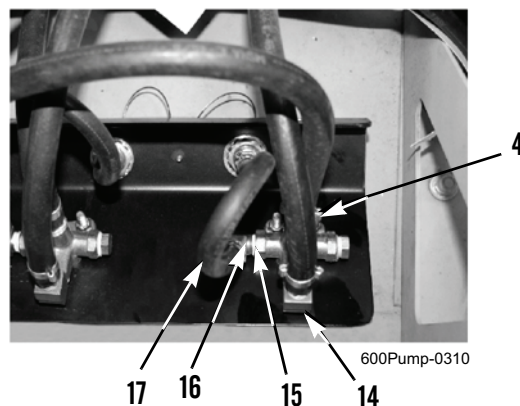

Figure 6. Fuel Suction Selector Valve.
4. Install two elbows (Figure 6, Item 14) on fuel suction selector valve (Figure 6, Item 4).
5. Position three new hose clamps (Figure 6, Item 16) on hoses (Figure 6, Item 17) at fuel suction selector valve (Figure 6, Item 4).
6. Hold hoses (Figure 6, Item 17) and install fittings (Figure 6, Item 15) and hoses on fuel suction selector valve (Figure 6, Item 4). Tighten hose clamps (Figure 6, Item 16).